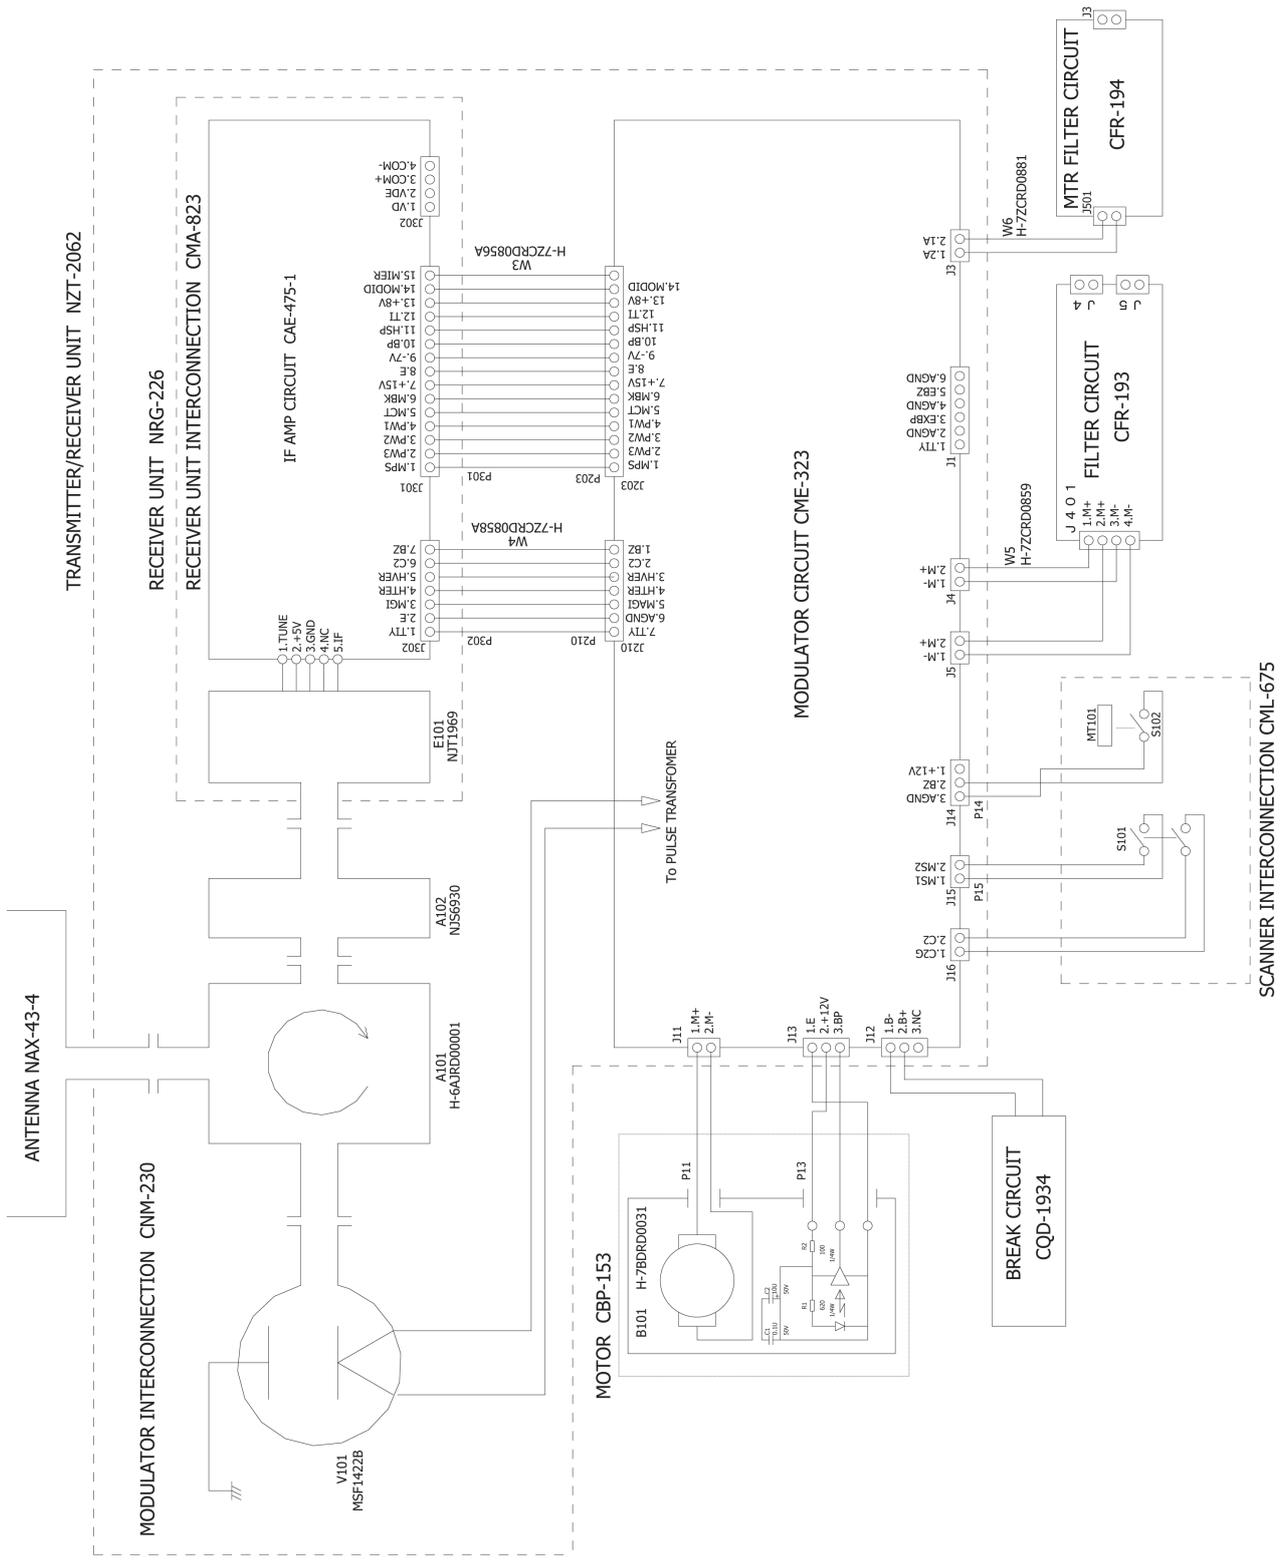

Figure 11 NKE-2062 Scanner Unit Interconnection Diagram
- FIGURE 11 NKE-2062 SCANNER UNIT INTERCONNECTION DIAGRAM